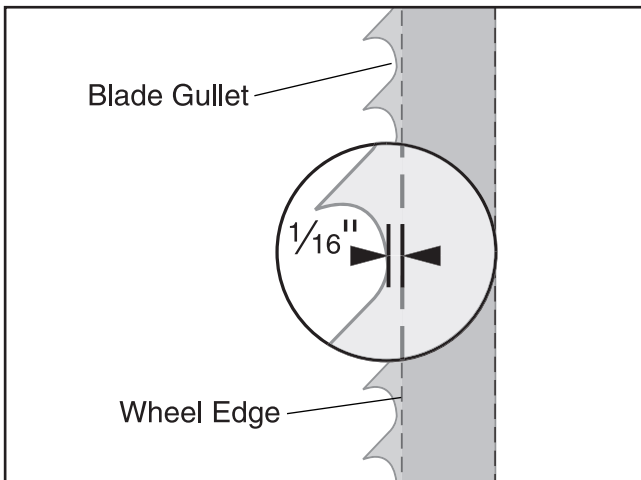

Figure 21. Illustration of proper blade position.
6. Position the blade on the wheels so the tooth gullet is approximately $\frac{1}{16}$ " over the edge of the wheel as illustrated in **Figure 21**.